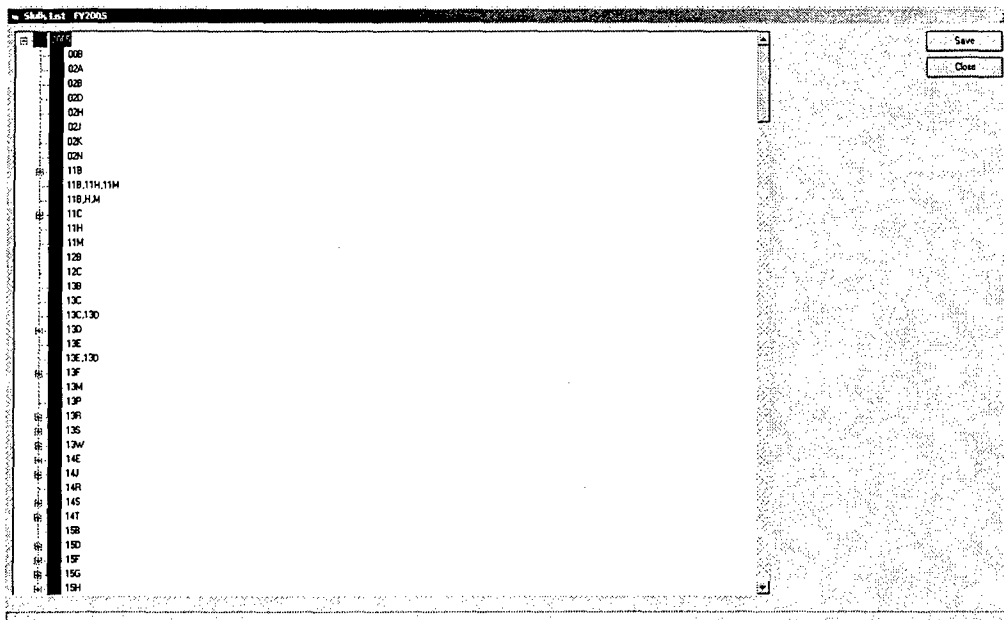

Figure 7. Skill List Editor
2. Edit skills from the skill list editor shown in Figure 7. This screen allows the administrator to maintain and update the list of active SRB skills associated with a particular fiscal year. Skills must be activated for a fiscal year before they can be used in a plan. The administrator can perform the following functions from this editor:
Note in Figure 7 that a tree is displayed on the left side of the screen. The tree displays all current MOSs in the database. Skills with a "+" box to their left contain currently active skills.